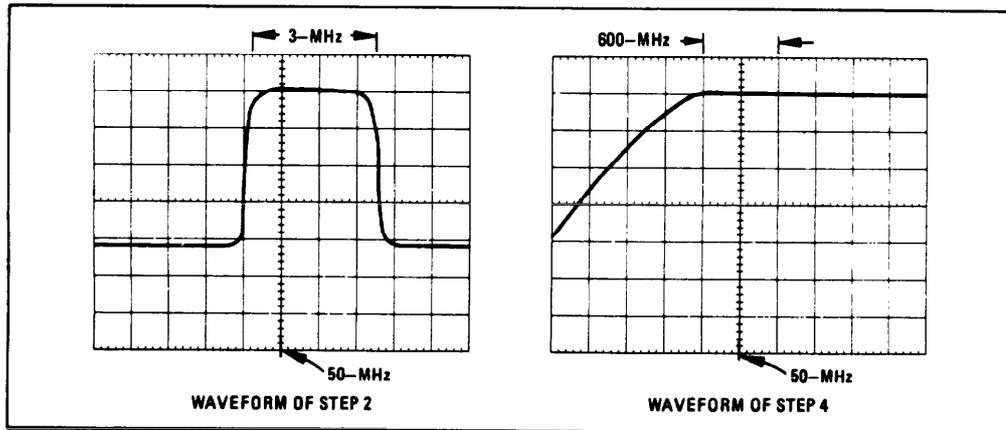

Figure 5-13. 50 MHz Bandpass Display for 10 MHz and 3 MHz Sweeps
POSITION (see Figure 5-13)
2. Adjust Generator/Sweeper and oscilloscope to display a 10 MHz swept signal centered on 50 MHz. (See Figure 5-13.)
4. Select 3 MHz sweep width on the HP 8601A and observe oscilloscope display for a bandpass as shown in Figure 5-13. Repeat Step 3 as required to obtain desired bandpass.